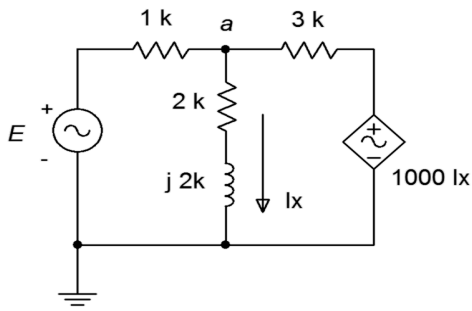

Figure 6.24
54. Determine v_a in the circuit of Figure 6.24 if the source $E = 2\angle 0^\circ$.
55. Given the circuit in Figure 6.24, determine the current flowing through the 1 kΩ resistor. Assume that $E = 15\angle 45^\circ$.